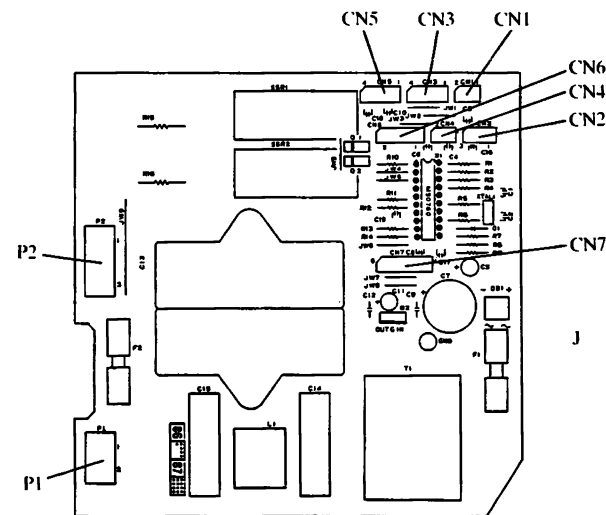

Fig. 68
- (1) Mount the Main P.C.B. to the Head frame with four screws.
- (2) Connect each connector with the plugs on the Main P.C.B.. (Refer to Fig. 68)